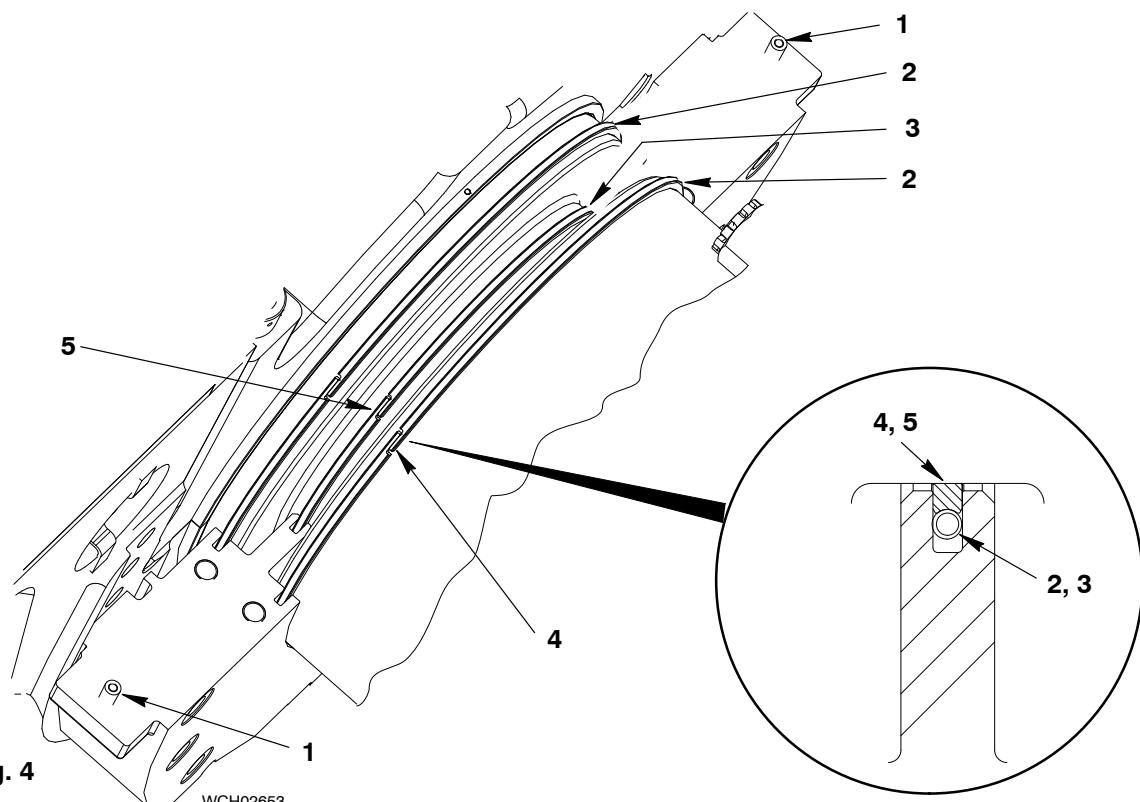

Fig. 4
- 12) Do a check of the 2-part gaskets (2 and 3, Fig. 4). If the 2-part gaskets have damage or contamination, do step a) and step b).
- 1) Apply clean engine oil to the new 2-part gaskets (2 and 3, Fig. 4).
Note: Use the two taper pins (1, Fig. 4) to help you get the top cylinder in the correct position.